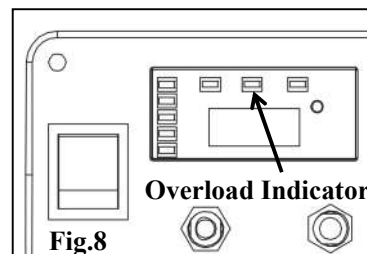

Fig.8
**CAUTION:** When the overload indicator is on (See fig.8), it indicates that the generating set is overload and it may cause overheat of frequency converter, or increase of AC voltage. And then the AC protector works. It will stop the output of generating set to protect the electric equipment and the generating set itself. At this time, the running indicator(green) is off and the overload indicator(red) is on, but the engine is still in running set.